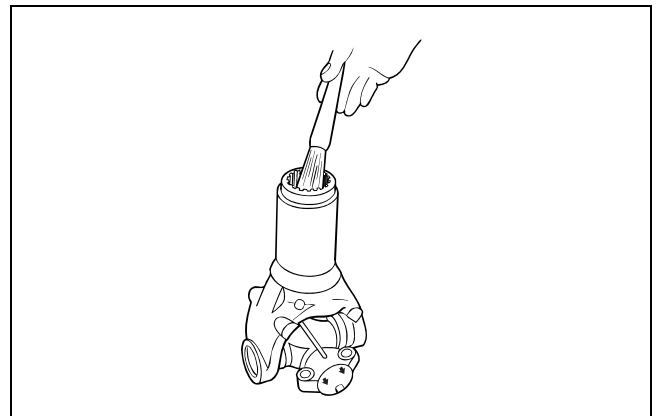

Figure 4.19
3. Use a brush to distribute lubricant on the splines. Figure 4.19.